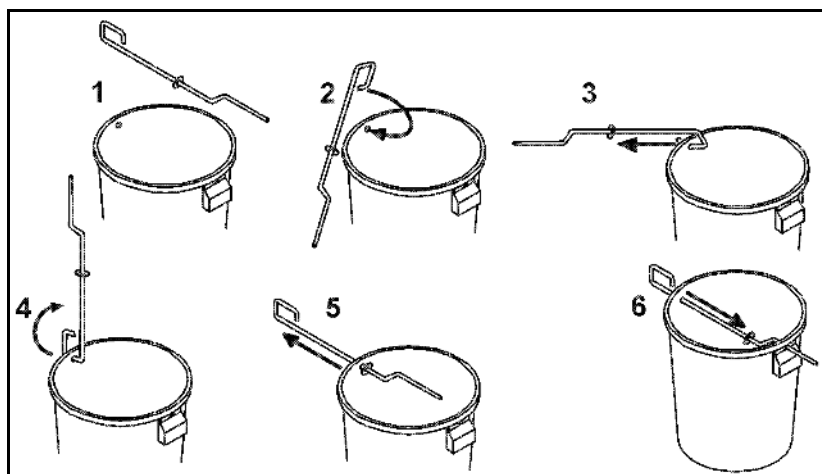

Fig. 61
- 2.1 Unscrew the wing nut (Fig. 61/1) securing the spreader disc and remove the spreader disc from the gearbox shaft.
3. Hook the collection bucket (Fig. 61/2) using the brackets (Fig. 61/3) into the supports (Fig. 61/4 and Fig. 61/5) on the frame.